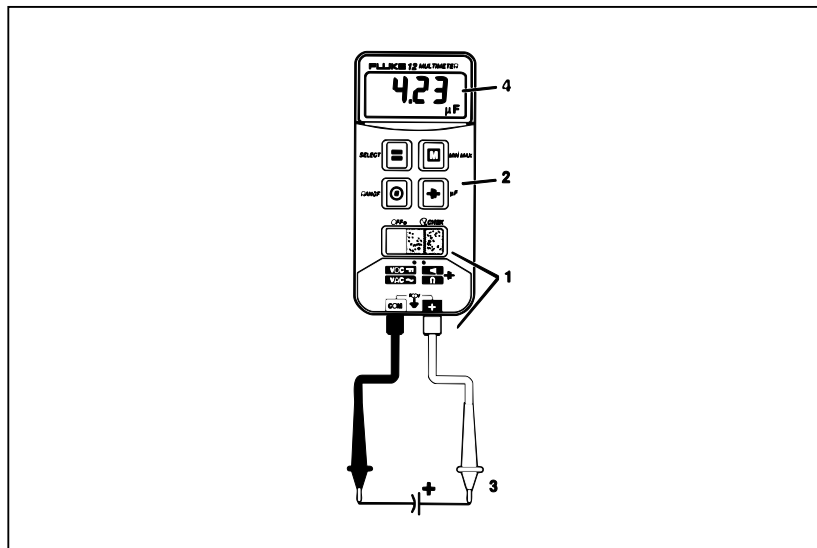

Figure 6. Measuring Capacitance
1. Insert test leads, and move the slide-switch to []. (See Figure 6.)